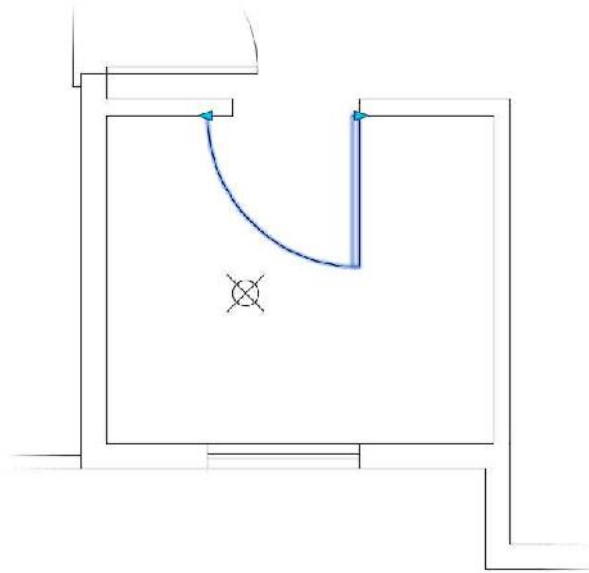

FIGURE 9.55: The dynamic block's resizing arrows
18. Close DesignCenter if it's still open, and select the bathroom door block to reveal the blue dynamic arrows (see Figure 9.55).